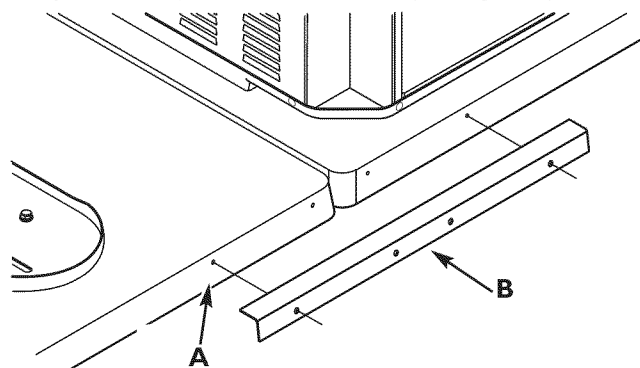

Figure 2 — Mounting Pad and Angle Bracket Holes
Confirm that the pre-drilled holes on both mounting pads are adjacent to each other (see Figure 2).
2. Lay one 20 inch (50 cm) angle bracket across both mounting pads, aligning the bracket holes with the pre-drilled pad holes, as shown in Figure 2.